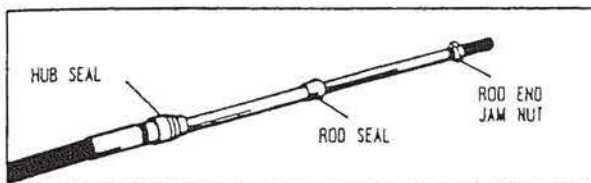

Figure 2
1. Remove the jam nut, rod seal and hub seal from the end of the cable. Discard the hub seal **ONLY**. See figure 2.
- a. Remove the jam nut, rod seal and hub seal from the end of the cable. Discard the hub seal **ONLY** See Figure 2.